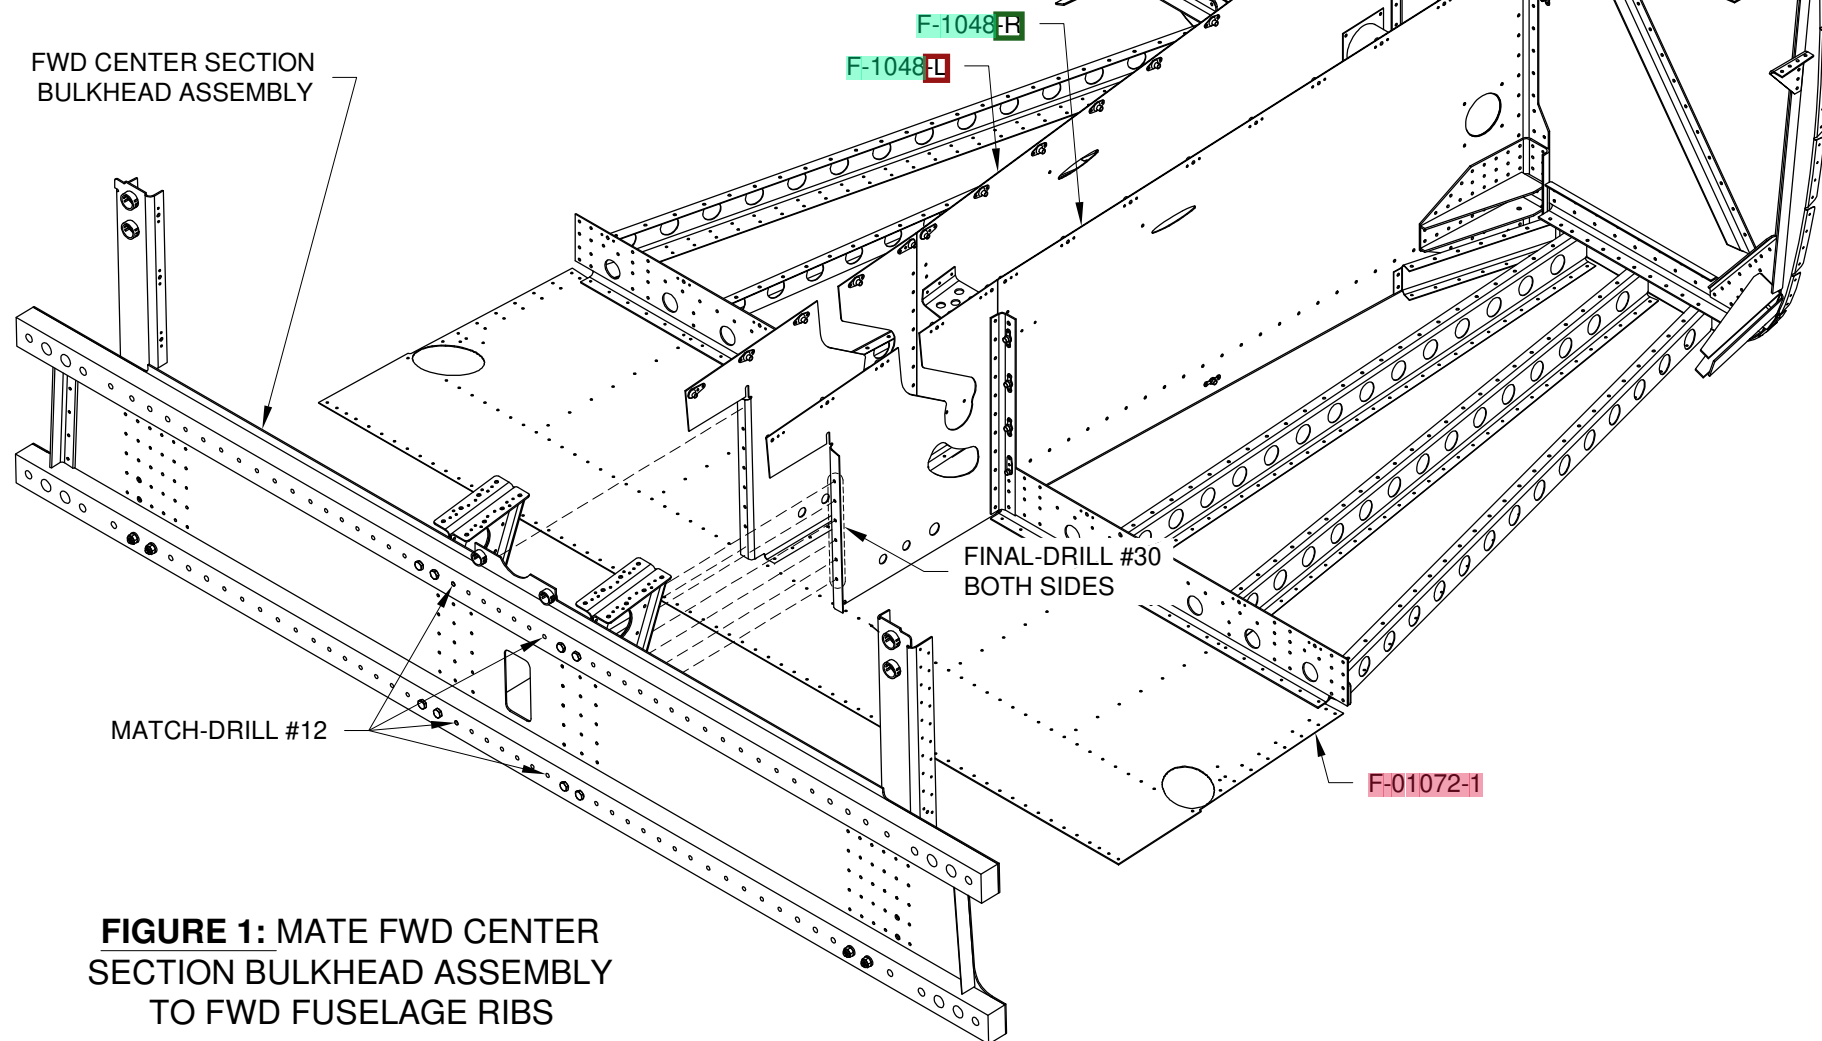

FIGURE 1: MATE FWD CENTER SECTION BULKHEAD ASSEMBLY TO FWD FUSELAGE RIBS
Step 3: Cleco the aft flanges of the F-1048-L & R Fwd Fuselage Ribs to the web of the Fwd Center Section Bulkhead Assembly as shown in Figure 1.
Match-Drill #12 through the Fwd Center Section Bulkhead Assembly into the aft flanges of the fwd fuselage ribs 4 places as shown in Figure 1.
Final-Drill #30 through the Fwd Center Section Bulkhead Assembly and fwd fuselage ribs 12 places as shown in Figure 1.